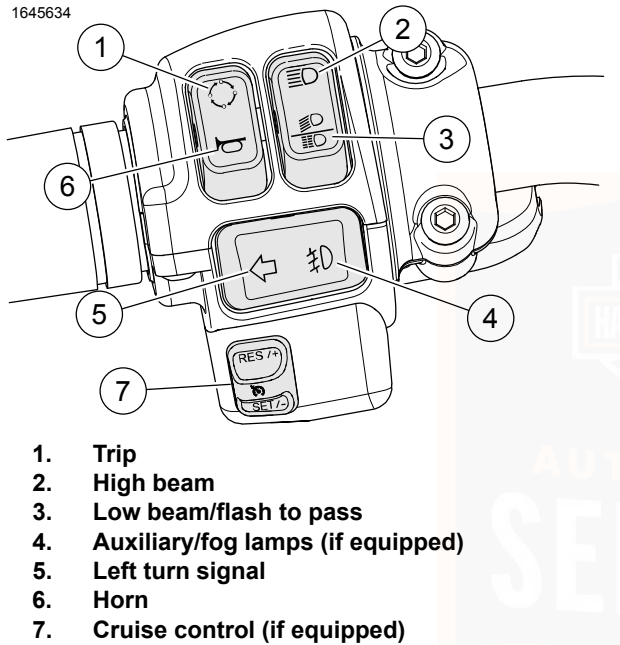

Figure 31. Left Hand Switch Module
See Figure 31. The trip switch (1) activates the trip odometers. The trip switch also is used to scroll through the optional screens of the odometer display. With the ignition off, the trip switch can activate time or odometer displays. Refer to Table 34.
See Figure 31. Press the high beam switch (2) to activate the high beam. The (blue) high beam indicator lamp is lit when the high beam is on. Refer to Table 34.
Low beam: See Figure 31. Press the bottom of the switch to (3) activate the low beam.
See Figure 31. The cruise control (7) switch is used to operate cruise control on equipped vehicles. See Operation > Cruise Control (Page 107). for detailed operation.
See Figure 31. Press the auxiliary/fog lamps switch (4) to activate the auxiliary/fog lamps. Refer to Table 34
Activate: See Figure 31. Press the left turn signal switch (5) to activate the left turn signal. Refer to Table 34.
See Figure 31. The horn is operated by pressing the horn switch (6). The horn can be activated for up to 10 seconds at a time. If the horn switch is held for a longer period, the horn automatically deactivates. Refer to Table 34.